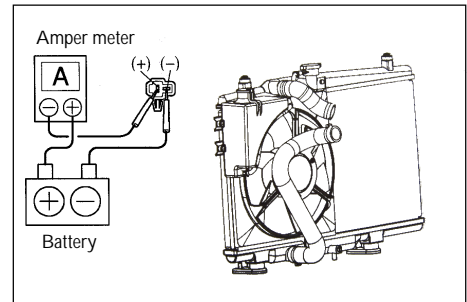

Figure 5-7
(3) Check the cooling fan (see Figure 5-7).